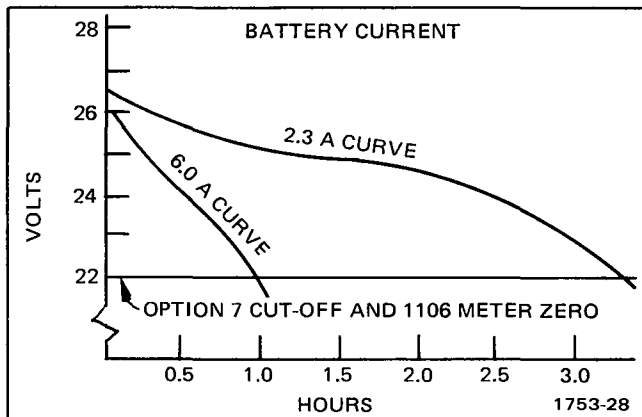

Figure 7-9. Typical battery pack discharge curves.
*Option 07 is calibrated at the factory using a power supply having the specifications given in Table 7-2, Equipment Required. This permits the most accurate setting of the turn-off volts and inverter balance adjustments. Because this type of power supply may not be available, several alternative possibilities are given. The alternate power supplies have drawbacks, including voltage stability vs. time with high discharge rates. See Figure 7-9.*